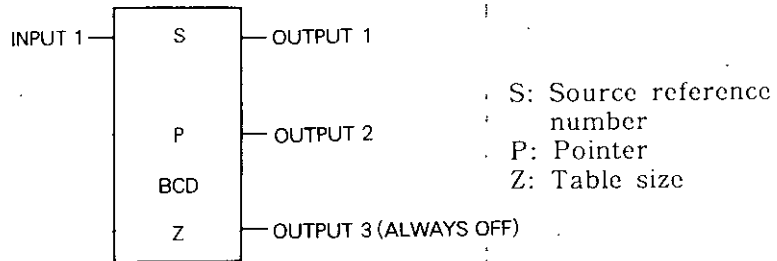

Fig. 5.73 BCD General Form
- Fig. 5.73 shows the form of Binary → BCD conversion.